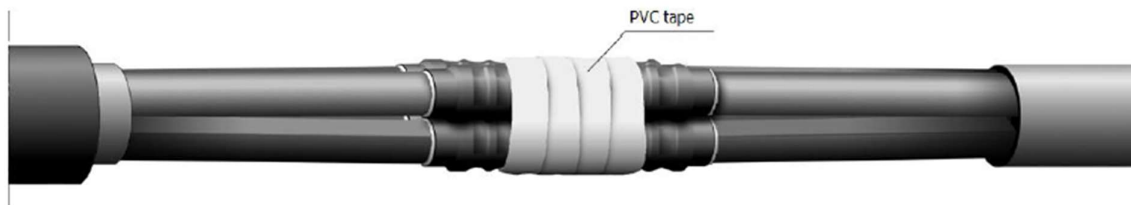

Fig. 5.
3.5. After the pipes cool down, form cores by pressing them together with a few wraps of PVC tape - Fig. 5.